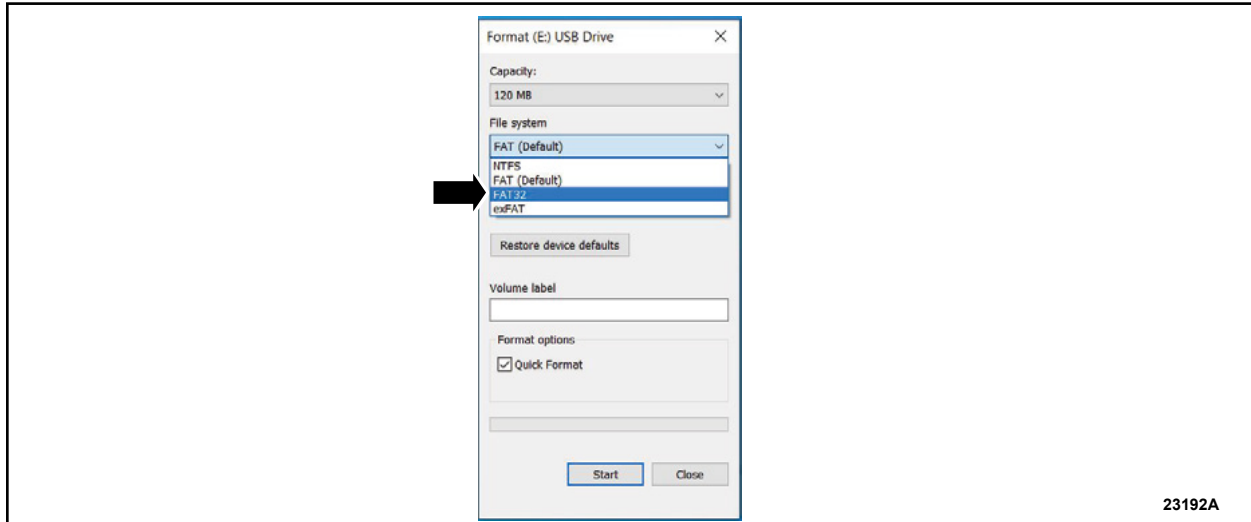

FIGURE 1
1. Insert the USB flashdrive into a computer. Format the flashdrive using the FAT32 option. See Figure 1.